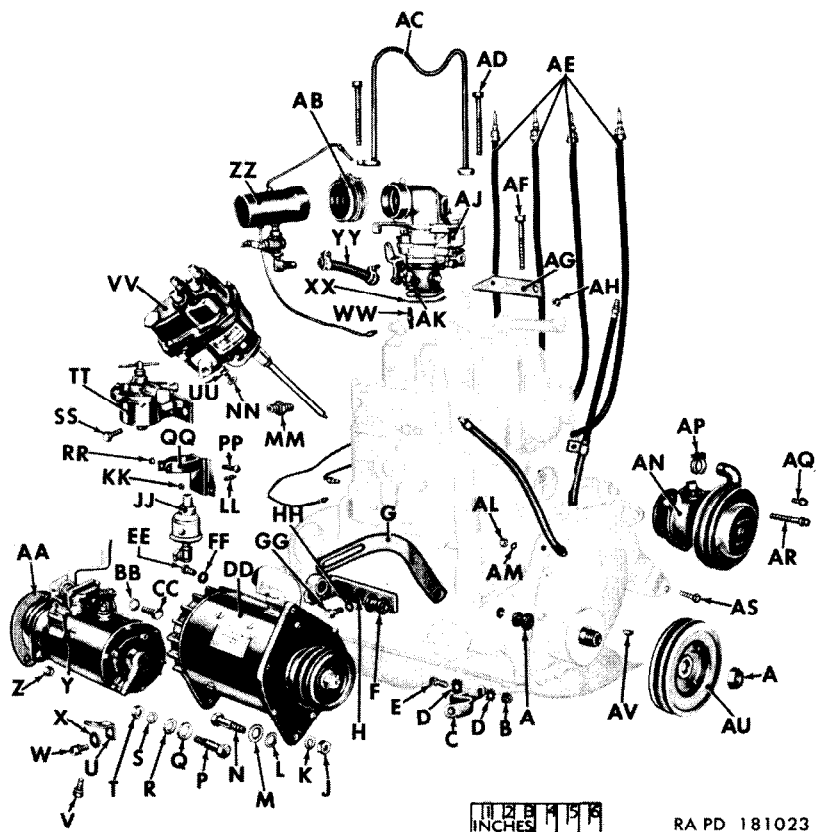

Figure 12. Engine accessory assemblies and mounting parts, brackets and fittings—right front view.
a. A complete rebuild of the engine requires that the entire engine assembly be disassembled into its individual parts. Before beginning the actual disassembly of the engine, however, the accessory assemblies furnished as part of the engine assembly must be first removed. In figures 3, 4, 5, and 6, these accessory assemblies are shown in their assembled positions. Figures 12 and 13 show the accessory assemblies and their attaching parts and fittings disassembled from the engine.